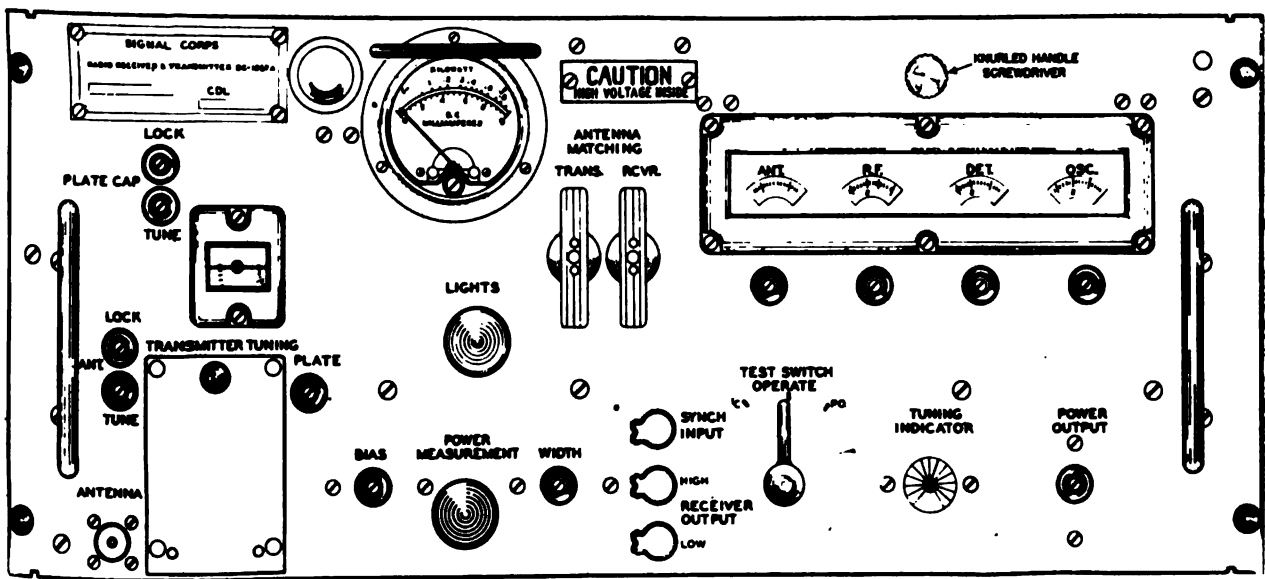

Figure 176. Radio Receiver and Transmitter BC-1267-A, front panel.
*Note.* The following controls should be adjusted with the knurled handle screwdriver which is screwed into the panel above the receiver tuning dials (see fig. 176).